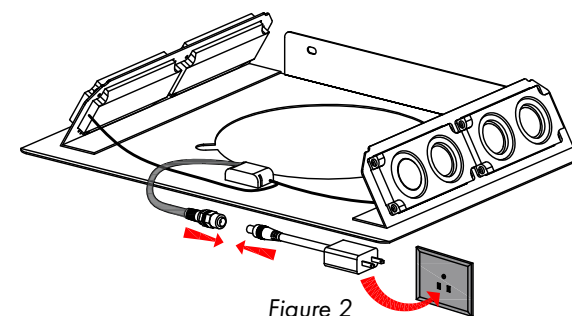

Figure 2
2. Attach ducting and electrical connections. Plug the speakers into an outlet behind the chimney. When the connection is successful, a chime will sound. *Figure 2*